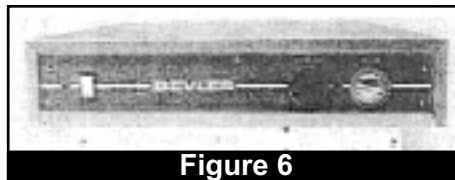

Figure 6
3.1 OPERATING CONTROLS AND COMPONENTS (Fig. 6)